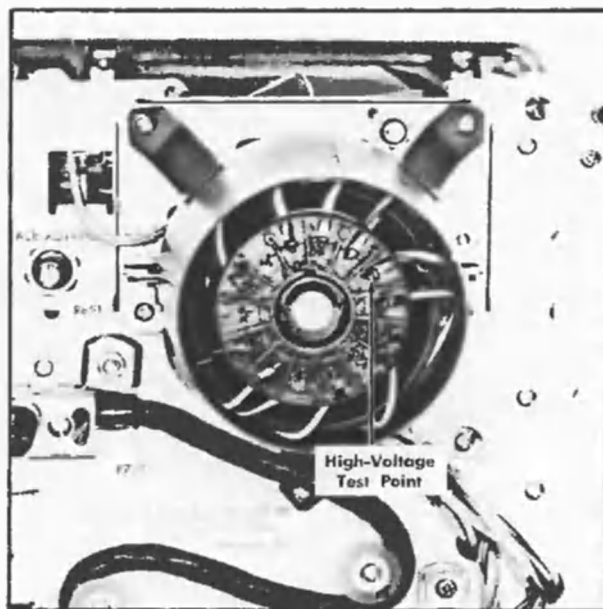

Fig. 6-5. Location of high-voltage test point (rear panel, protective cover removed).
- b. Connect the DC voltmeter from the high-voltage test point (pin 3 of CRT socket, see Fig. 6-5) to chassis ground.